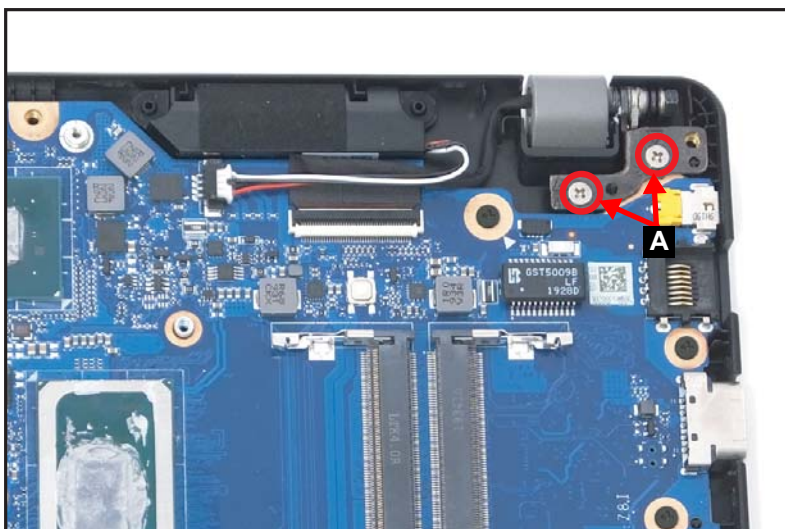

Figure 1-49. Mainboard Removal
1. Remove two (2) screws (A) securing the right side LCD hinge in place (Figure 1-49).